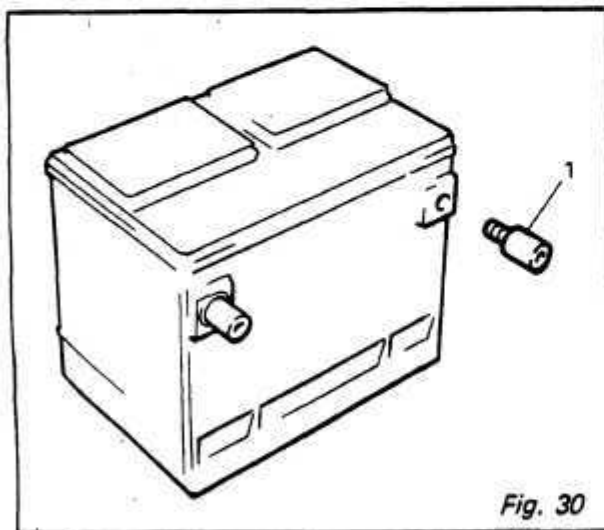

Fig. 30
The adaptor kit (1) shown in *Fig. 30* is available from AC-DELCO, Part No. ST-1201. It is recommended that this adaptor kit, or equivalent be used in charging sealed-terminal batteries when they are out of the vehicle.
2. If the Freedom Battery is OUT of the vehicle, assemble adaptors *Fig. 30* and connect tester clamps to the adaptors.